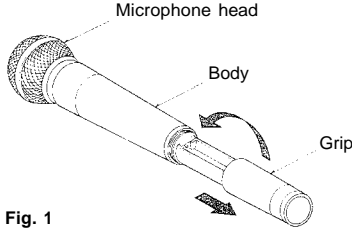
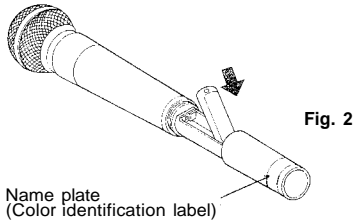

Fig. 1
Fig. 2
1. Hold the microphone body and rotate the microphone grip anticlockwise. (Fig. 1) The microphone grip is so designed that it can not be completely removed from the body because the battery grip past the lock point as damage may occur. (Fig. 2)
2. Observing correct polarity instructed inside the battery compartment, insert a battery. (Fig. 2)